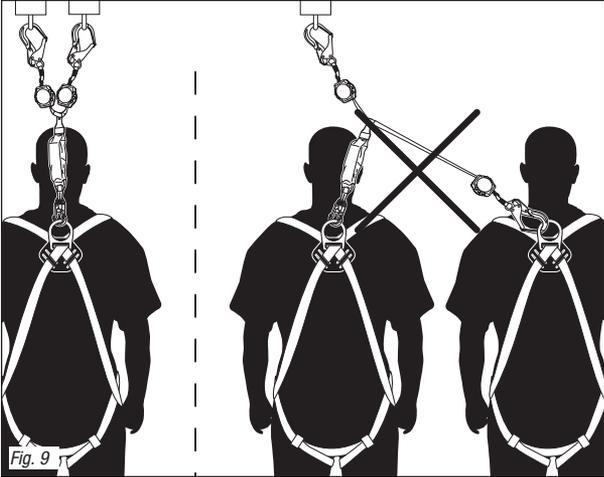

Fig. 9
- Never connect more than one person to a TracBloc 2 twin self-retracting lanyard (*Figure 9*).